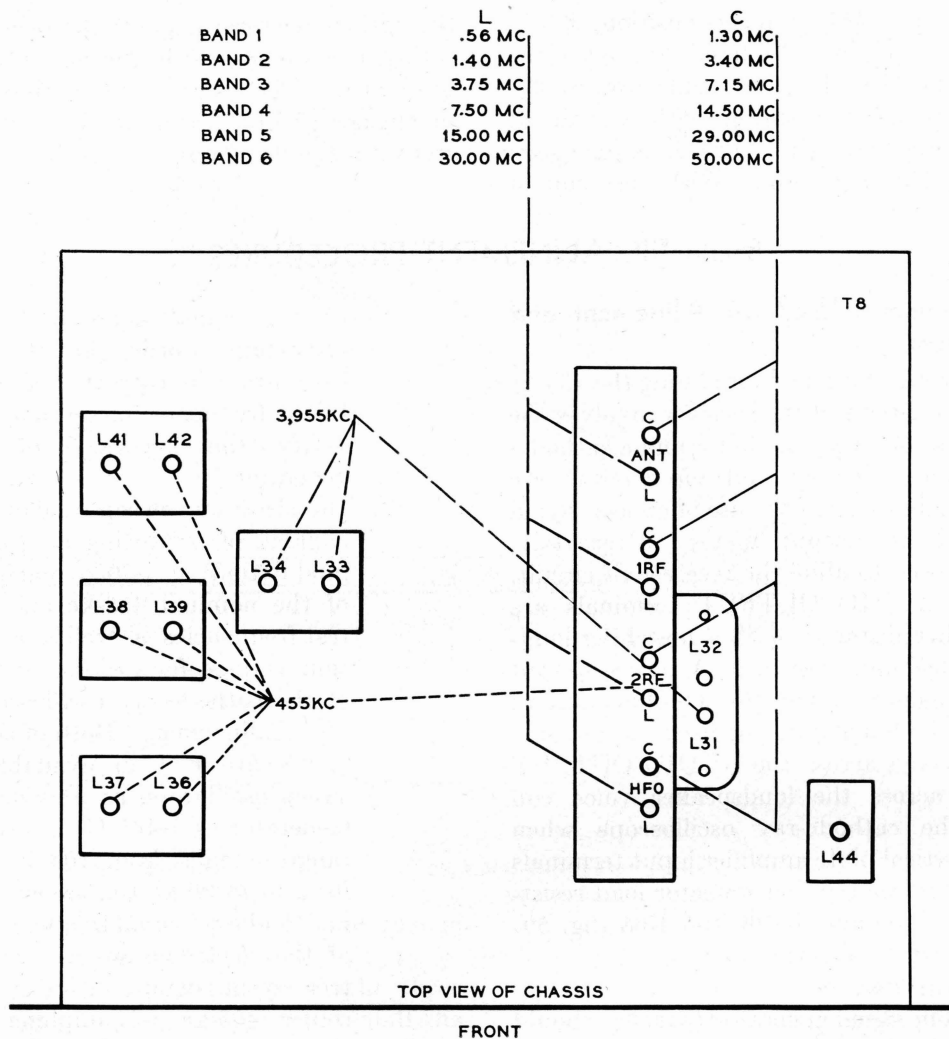

Figure 92. Radio receiver, all types, alinement chart.
- (1) The a-m signal generator (par. 78) should be capable of providing at least a 30-percent modulated r-f signal. In addition to 455 kc and 3,955 kc (the intermediate frequencies of the receiver), the frequency range required is from .56 to 50 mc, slightly less than the frequency range of the receiver. The alinement frequencies are shown in figure 92. If necessary, the second harmonic generally can be used when the signal generator does not provide the fundamental frequency. For example, a signal generator covering all frequencies from 80 kc to 30 mc could be used to aline the receiver at 50 mc (fig. 92), by use of the second harmonic of 25 mc. For best results, the signal generator should have its output impedance in series with 100 ohms when the r-f and vfo circuits are being alined. For i-f alinement, this value is not critical. The frequency calibration
The radio receiver does not require realinement after any tube replacement. However, this applies to vfo tube V4 only if the main dial calibration (par. 150) is within the calibration tolerance of  $\frac{1}{4}$  of 1 percent of frequency. When V4 is replaced, check the main dial calibration, especially at the h-f end of each band. If realinement is necessary, realine the C adjustment for the HFO (fig. 92) for each frequency band (par. 98) whose main dial calibration is outside the calibration tolerance.
When one or more of the r-f tuner subassemblies for any one band of the receiver is replaced, the receiver r-f and vfo alinement procedure (par. 98) may be restricted to the realinement of the L and C adjustments (fig. 92) applicable to each r-f tuner subassembly involved. On band 1, the L and C ANT, 1RF, 2RF, and HFO (fig. 92) adjustments are made, respectively, with r-f tuner subassemblies L1, L8, L15, and L25; on band 2, respectively with L2, L9, L16, and L26; on band 3, respectively with L3, L10, L17, and L27; on band 4, respectively with L4, L11, L18, and L28; on band 5, respectively with L5, L12, L19,